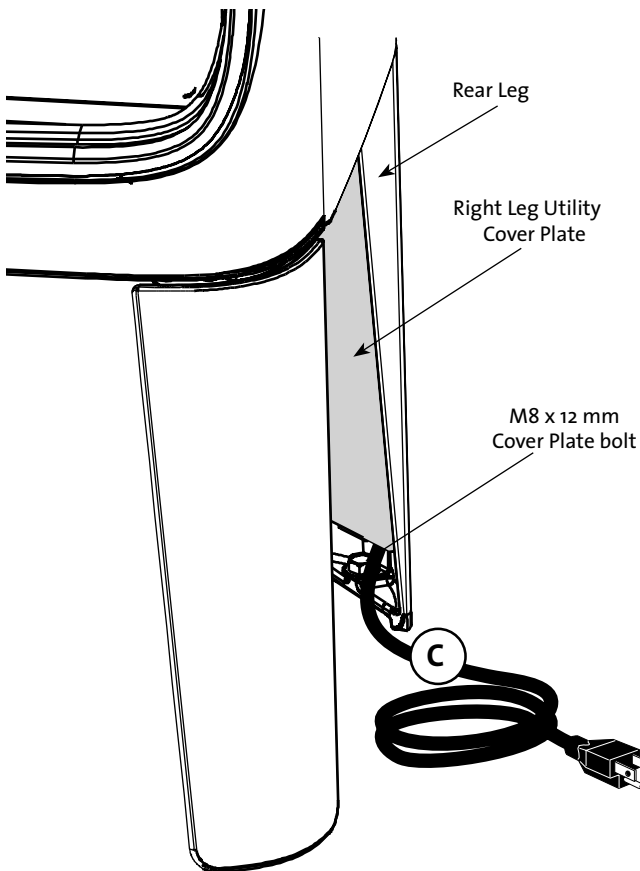

Figure 11.9. Power cord routing.
5. The power cord (C) is routed to the **right rear** stove leg behind the Right Utility Cover. It may be removed to accommodate installation requirements as necessary. See fig. 11.9 and fig. 17.8, page 43.